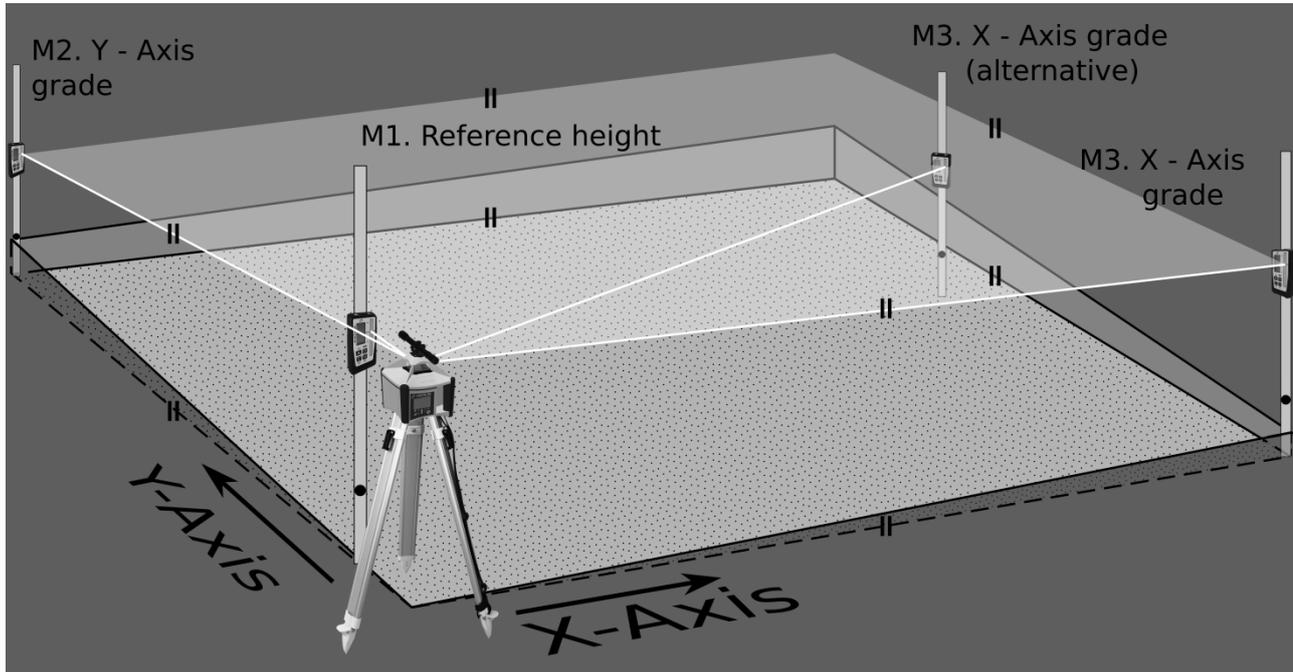

Figure 1: ALIGN setup – Horizontal
Two grades can be set automatically in the X and Y axis with the laser system **Vision 2N ALIGN** and the detector **TE 90 ALIGN**. First set up the static head horizontally, as described under Section 4 and set the laser in the Y direction flush with the first target point M2 (Figure 1). Use the telescopic sight (option) if the determined grade values are to be as accurate as possible.
Then set up the laser yardstick with the detector as short a distance away from the laser as possible (Figure 1: M1 reference height) and switch on both devices as described in Sections 1 and 11.2 and place the detector centre level with the laser beam.
12.1.2.1 Slope Y axis (Figure 1)
12.1.2.2 Slope Y- and X - axis (Figure 1)